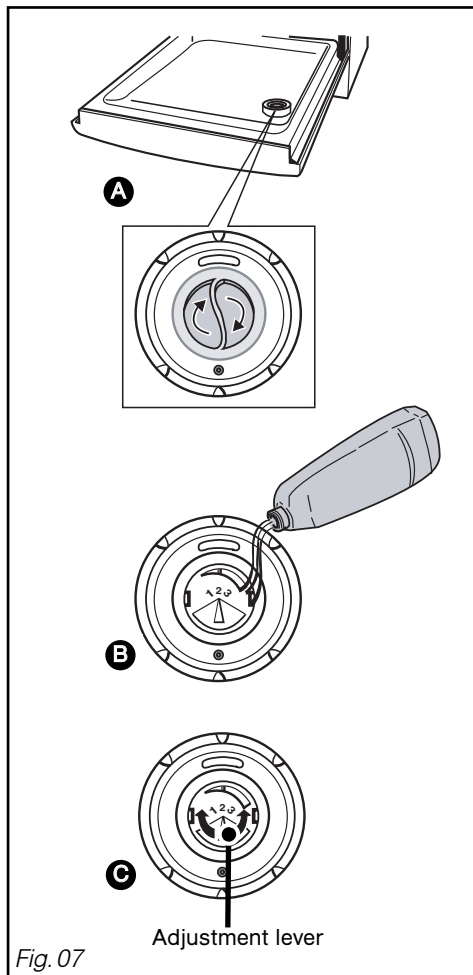

Fig. 07
• **The rinsing product (Fig. 07)**
Adjust, if necessary; the original setting is 2. If you experience poor drying or residual marks after a few cycles, increase the setting by turning the lever (fig 07 **C** : marking 3 to increase it)